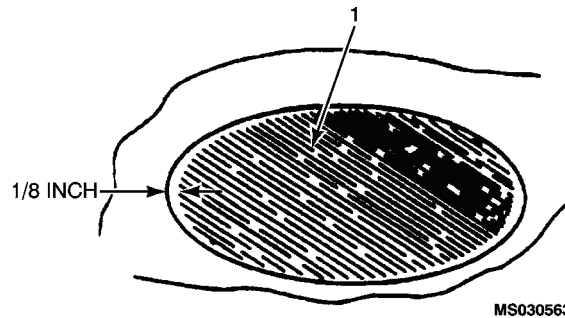

Figure 2-30. Applying Adhesive Over Area No More Than 1/8 Inch Buffed Area.
patched area (1, figure 2-30) to no more than 1/8 inch buffed area edge. Use a brush (item 6, table 2-11). Smooth surface with gloved fingers wet with acetone (item 3, table 2-11) and remove any excess adhesive from unbuffed area with a clean cloth (item 16, table 2-11) and acetone (item 3, table 2-11). Wear gloves (item 4, table 2-11).
(k) Prepare a new batch of adhesive (item 1, table 2-11) and carefully apply a uniform (liberal/heavy) coat of adhesive mixture (1 figure 2-30) over previous coats of barrier adhesive to within no more than 1/8 inch of O.D. of buffed edge area. Use a brush (item 6, table 2-11). Smooth surface with gloved fingers wet with
(q) Prepare a new batch of adhesive (item 1, table 2-11) and carefully apply a uniform coat of repair adhesive (1, figure 2-30) over patched area to within no more than 1/8 inch of O.D. of buffed edge. Smooth surface with gloved fingers wet with acetone (item 3, table 2-11). Use a brush (item 6, table 2-11). Remove any excess adhesive with cloths dampened with acetone (item 3, table 2-11). Wear gloves (item 4, table 2-11).